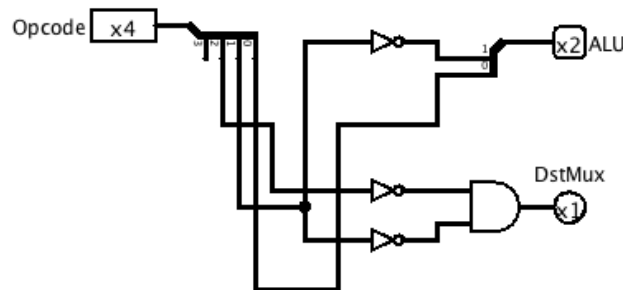

Figure 1. A simple control circuit for a MiniMIPS processor.
9. **Now, we need to build the control unit, a.k.a, Decoder.** The decoder is nothing more than a combinational circuit. It takes as an input the opcode from the instruction to output the control signals. The control signals we need are the operation signals for the ALU and the select signals for SetMux. You can draw a truth table and then minimize the table with pencil and paper. When you are done with the Decoder, it should appear similar to Figure 1, below: